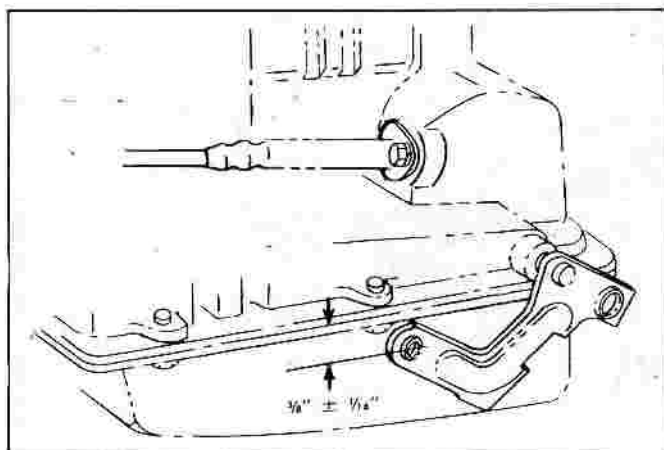

Fig. 7E-7—Cable Installation Check Diagram
11. Install clip on cable in rear kick-up area (fig. 7E-5).